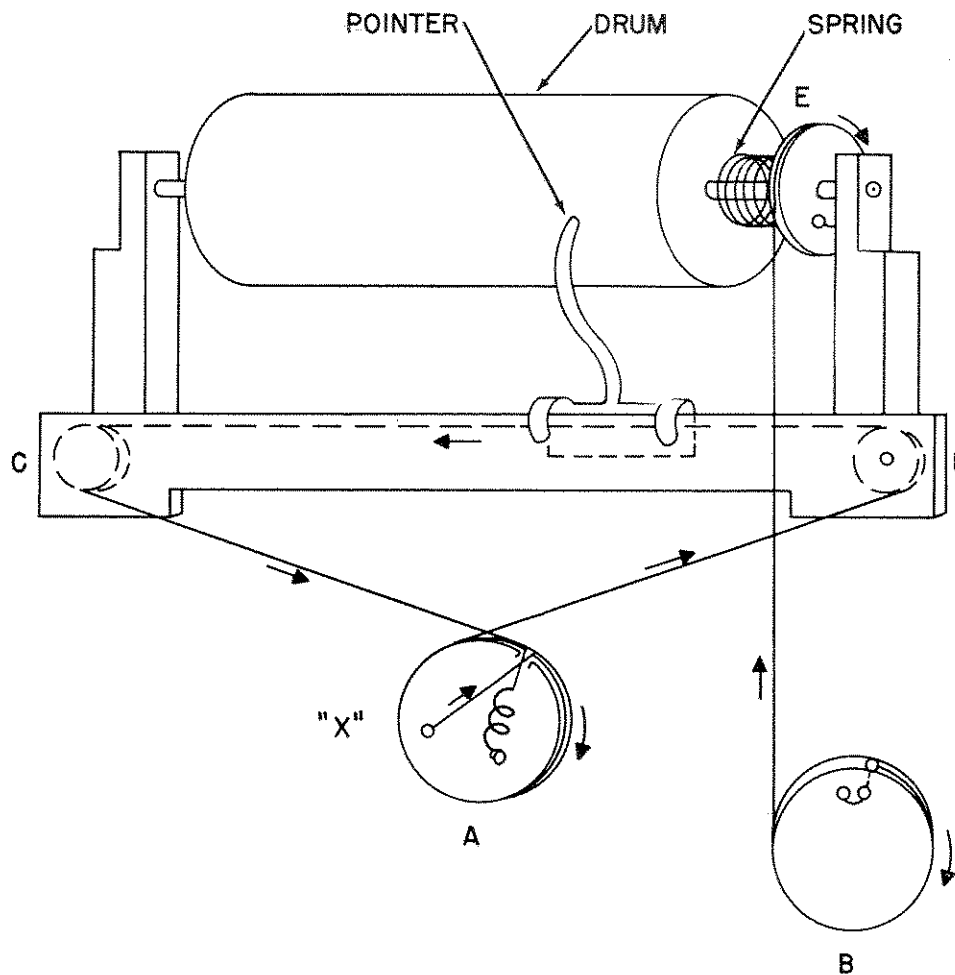

Figure 39. Replacement of dial cables.
(fig. 39)
- (1) Turn the BAND CHANGE shaft to tuning step 30 (29.5 to 30.5 mc) position, thus causing pulley E to reach its counterclockwise stop.
- (2) Tie a loop in the end of the cable and attach it to pulley E and wind it around as shown in figure 39.
- (3) Turn pulley E about one-half turn and hold it against the tension of the spring.
- (4) Run the cable to pulley E and work it around the pulley one and one-half turns or more as required, before attaching the end.
- (5) Loosen the setscrew in the hub of the drum and align the 29.5- to 30.5-mc scale so that it will show in the window when the front panel is replaced. Tighten the setscrew.